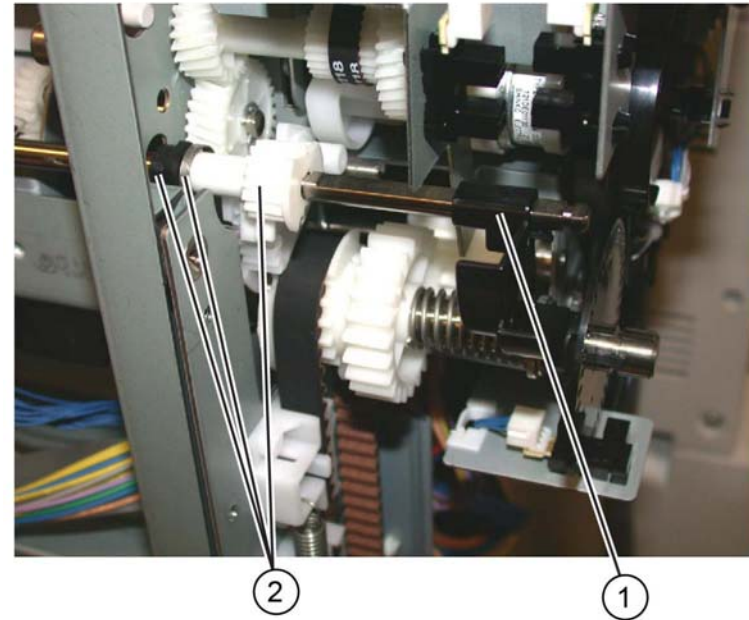

Figure 8 Flag removal
15. Slide the gear, spring and the bushing away from the frame, **Figure 8**:
- a. Unlock, then remove the flag (1).
- b. Slide the gear, spring and the bushing (2) away from the frame.